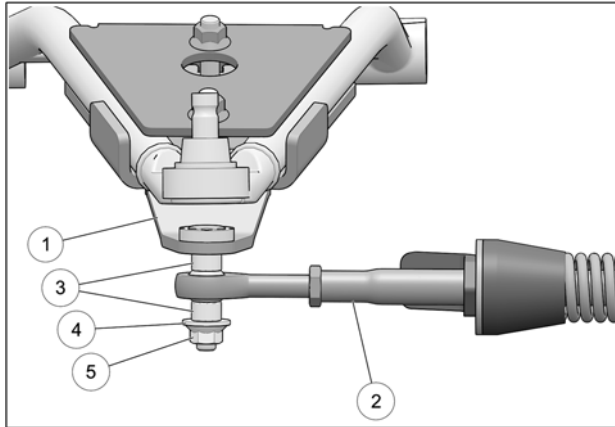

Fig. 12
- Attach the stabilizing rod (2) to the anchor bracket (1), using the two spacer bushings (3), flat washer (4) and nut (5). Torque to 70 N•m [52 lb•ft]. Refer to Fig. 12